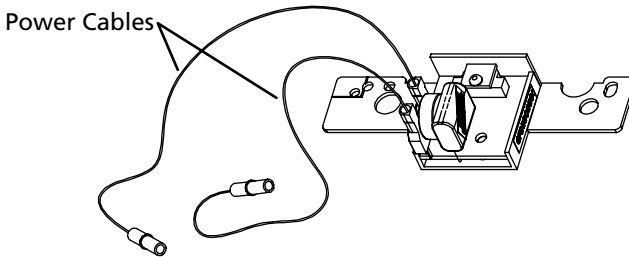

Figure 29. Attaching Power Cables to WOPI
5. Attach the power cables to the WOPI as shown. See Figure 29.